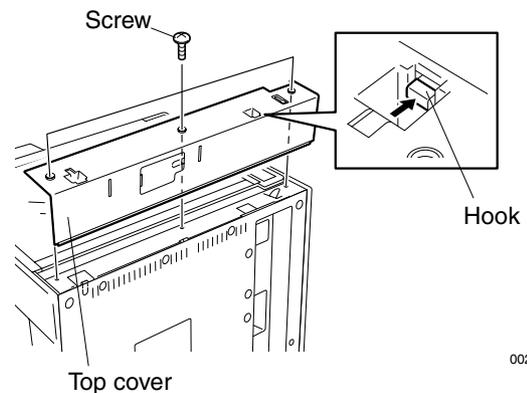

Fig. 2-6-2
5. Detach top cover. (See Fig. 2-6-2)
4. Detach top cover. (See Fig. 2-6-2)